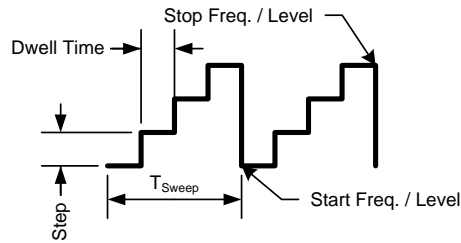
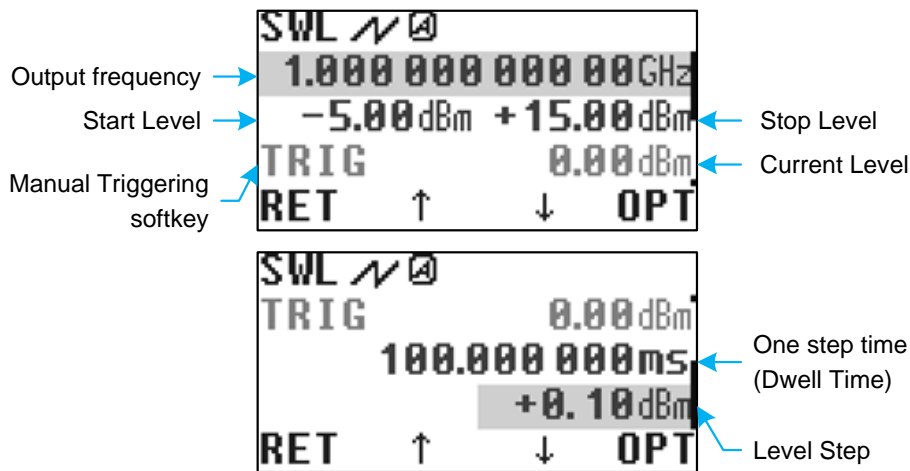

Figure 12: Sweep frequency/level parameters
Figure 16: Sweep level operation mode menu (Operation Modes > Sweep Level)
Sweep frequency is a step change of output frequency by the specified shape (e.g. triangle, saw) at a constant signal level. (fig. 12). T_{Sweep} – time of one period.
SWL mode is the step change of output level by the specified law (e.g. triangle, saw) at constant frequency (fig. 12). T_{Sweep} – one pass (period) time. Sweep level mode (SWL) has the following parameters (fig. 16):
- Manual – triggering event performed manually by pressing TRIG softkey (see fig. 16);
- Dwell Time – this sub-menu item duplicates the corresponding menu item in fig. 16;
- Level Step – this sub-menu item duplicates the corresponding menu item in fig. 16;